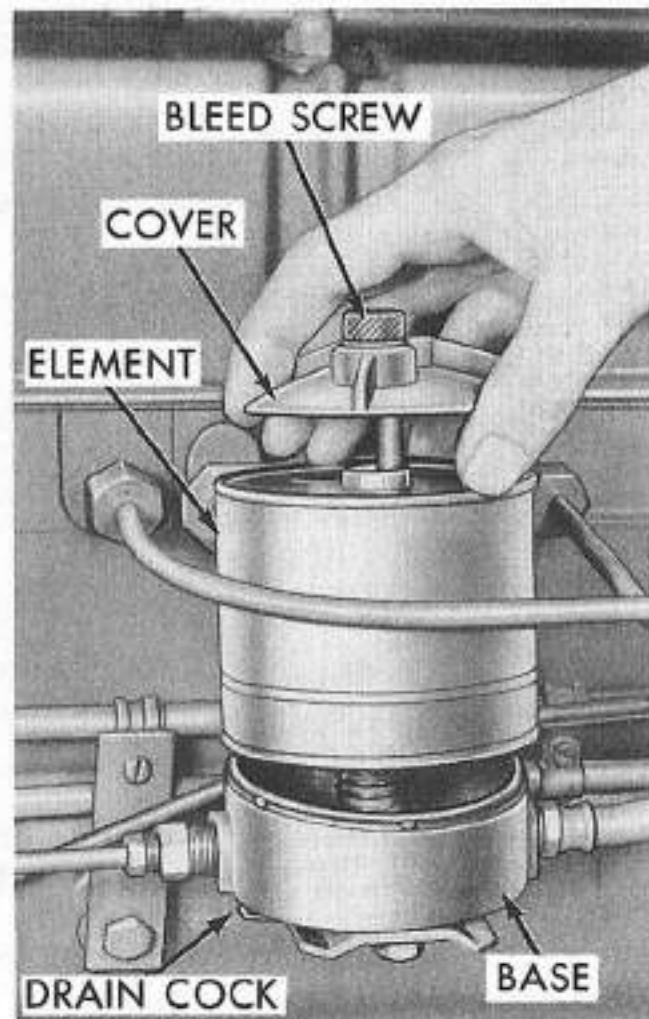

Fig. 8—Replacing Filter
3. Remove the cover assembly and filter element by turning the cover counterclockwise. (See Figure 8).